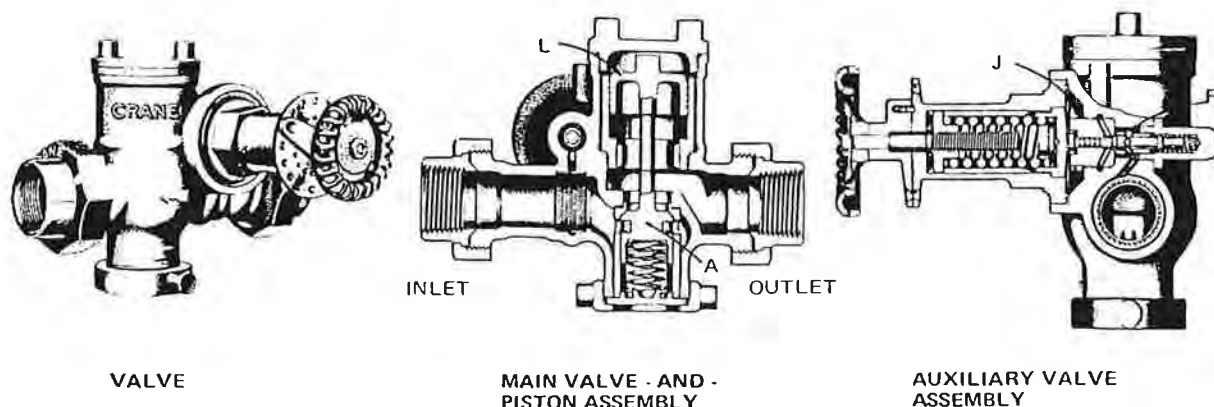

Fig. 8-6. Pressure-regulating valve.
8.21 Figure 8-6 shows one type of a pressure-regulating valve, and cross section views of such a valve. Although it may seem more complicated than most of the valves, it is actually just a combination of valve types that you have already learned about.